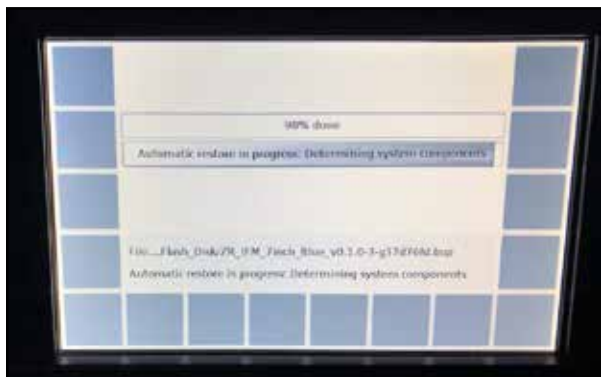

Figure 16
8. The screen will begin loading the file (Figure 16).